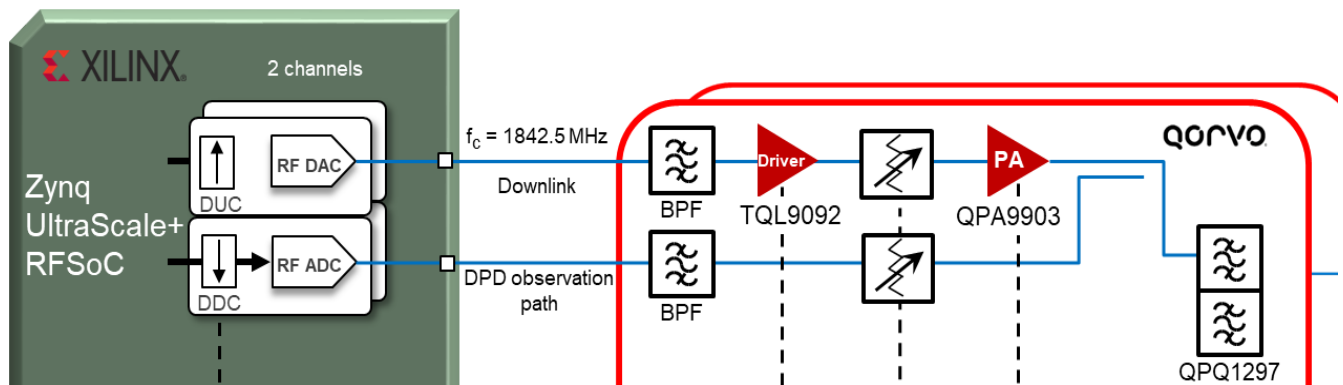

Figure 10 - TX signal chain and DPD observation path
2. Enable RF-DAC block 2, connecting to channel 1 transmit path of the Qorvo RF card. Refer to Figure 10